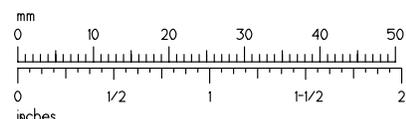

**Figure 6-5.**
- ❑ 6. Trial fit both canopy doublers to the inside of the canopy halves as shown in Fig. 6-5, and trace around the doublers with a pencil. Note that the circular indents on the doublers should fit exactly over the circular outdents on the inside of the canopy.
- ❑ 8. Sand the edge projection (glue strip) on the right canopy half, and the inside edge of the left canopy half with coarse (120 grit) sandpaper to prepare the surfaces for gluing. Also sand the areas that will lie under the seam reinforcements as shown in Fig. 6-5. There is no need to sand seam the area behind the seam reinforcements because this area will not be glued together.
- ❑ 10. Cut two ½" (12mm) pieces from the seam reinforcement strip. Note how the seam reinforcements sit on the inside of the canopy over the top of the seam as shown in Fig. 6-5. Sand the back of the reinforcements with coarse (120 grit) sandpaper to prepare the surfaces for gluing. Glue the reinforcements to the inside of the right canopy half as shown in Fig. 6-5.